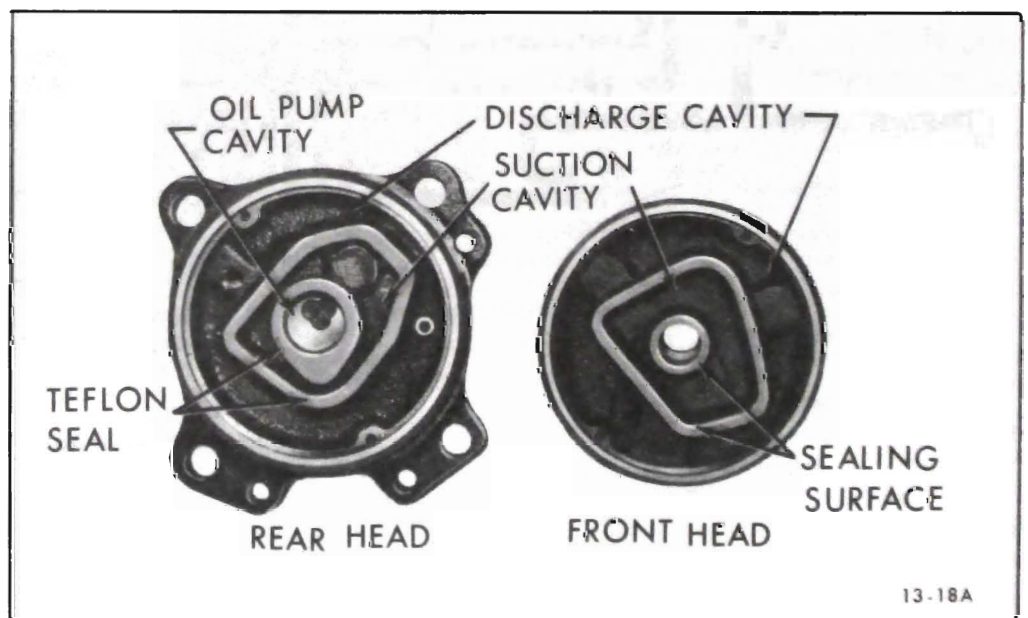

Figure 13-29 Compressor Front and Rear Heads
2. Front and Rear Heads - The front and rear heads (Figure 13-29) serve to channel the refrigerant into and out of the cylinders. The front head is divided into two separate passages and the rear head is divided into three separate passages. The outer passage on both the front and rear heads channels high pressure gas from the discharge valve reeds. The middle passage on both front and rear heads channels low pressure gas to the suction valve plate reeds. The inner passage on the rear head houses the oil pump inner and outer rotors. A Teflon sealing material is bonded to the sealing surfaces separating the passages in the rear head. "O" rings are used to affect a seal between the mating surfaces of the heads and the shell. The front head suction and discharge passages are connected to the suction and discharge passages of the rear head by a discharge tube and suction passage in the body of the cylinder assembly. A screen located in the suction port of the rear head prevents foreign material from entering the circuit.